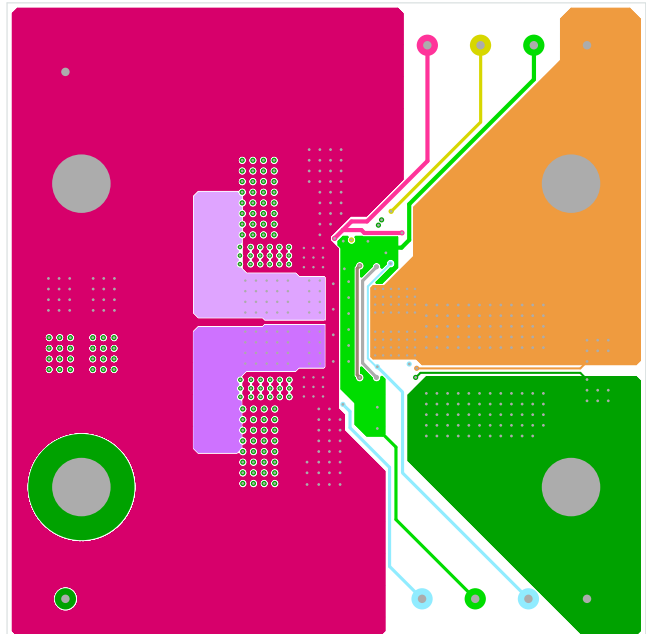

Figure 6. Layer 3
- The Phase 1 and Phase 2 pads are switching nodes that generate switching noise. Keep these pads under the module. For noise-sensitive applications, Renesas recommends keeping the phase pads only on the top and inner layers of the PCB; do not place the phase pads exposed to the outside on the bottom layer of the PCB. To improve the thermal performance, the phase pads can be extended in the inner layer, as shown in Phase 1 and Phase 2 pads on Layer 3 (see Figure 6) for this 30A evaluation board. Make sure that Layer 2 and Layer 4 have the GND layers cover the extended areas of phase pads at Layer 3 to avoid noise coupling.